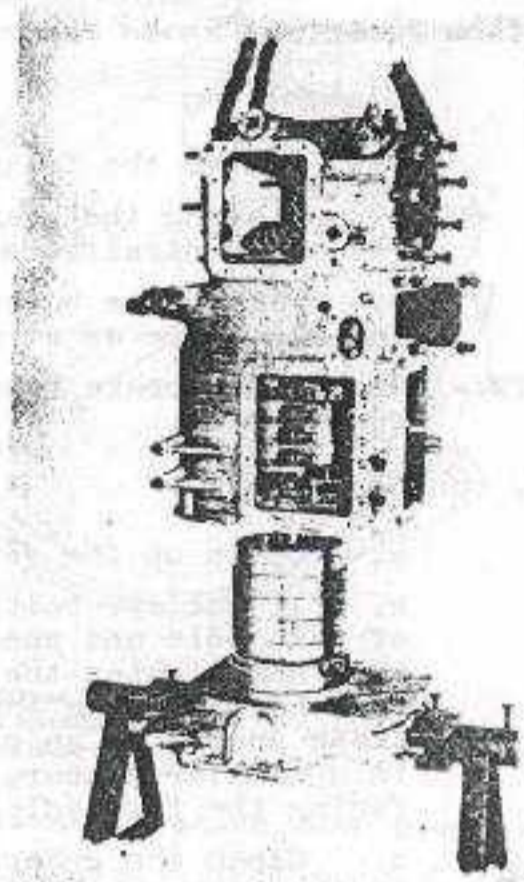
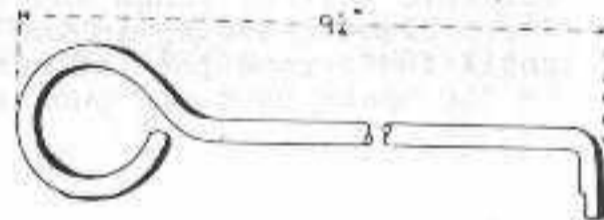

FIG 5 - GEARBOX - DISMANTLING,
FIG 6 - GEARBOX - TOOL REMOVING 1ST GEAR
- Up-end the gearbox as shown at fig 5 and lift the gearbox casing off the front cover. Joggle the case to allow the brake bands to clear the serrated drums. The gearcase will come away leaving the driven shaft, 2nd, 3rd, 4th and 5th gear trains on the front cover. The 1st gear planet carrier plate can now be removed from the gearbox, by means of the tools made locally and shown at fig 6. Slip the tools between the planet wheels and under the plate and pull upward. The planet carrier will come away with the 1st speed brake drum and bearing. Remove the running gear adjusting washer, which is between the bearing and the bevel pinion housing.